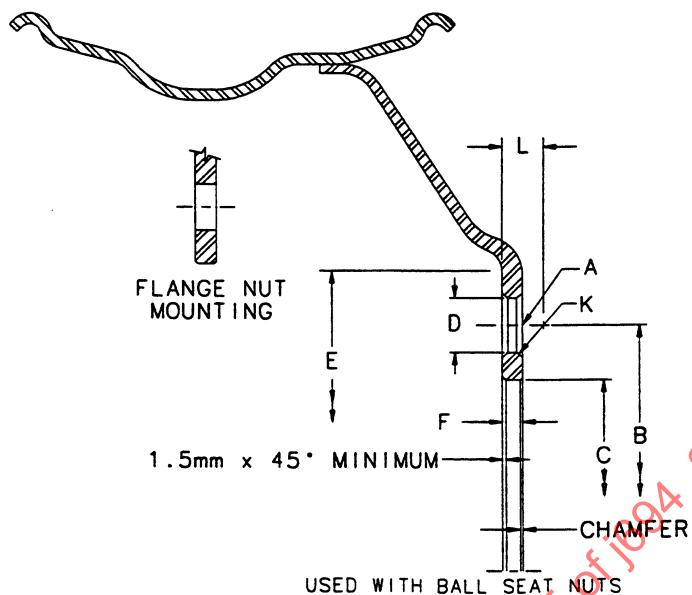

FIGURE 5—FERROUS DISC WHEEL
6.1.1 DEFINITIONS OF WHEEL DIMENSIONS—Reference Figures 5 and 6.